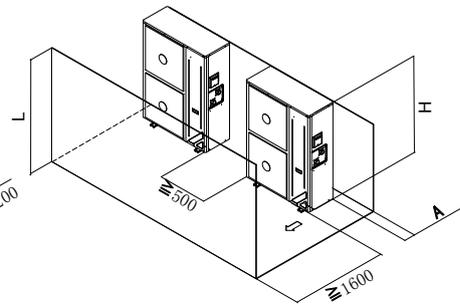

Figure 16
b. Group installation (two or more units) (see Figure 16)